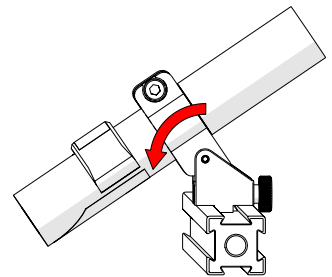

Fig. 173 - Aim guide
3. Adjust the optical guide's friction pivot to direct the laser beam as required (*Fig. 173*).